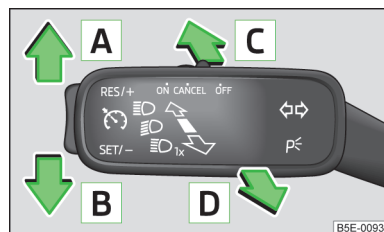

Fig. 29
- » Pull the turn signal and main beam lever to the steering wheel and push downwards » Fig. 29 on page 56.
- » Pull the turn signal and main beam lever to the steering wheel and push upwards » Fig. 29 on page 56.
Operating lever positions » Fig. 29.